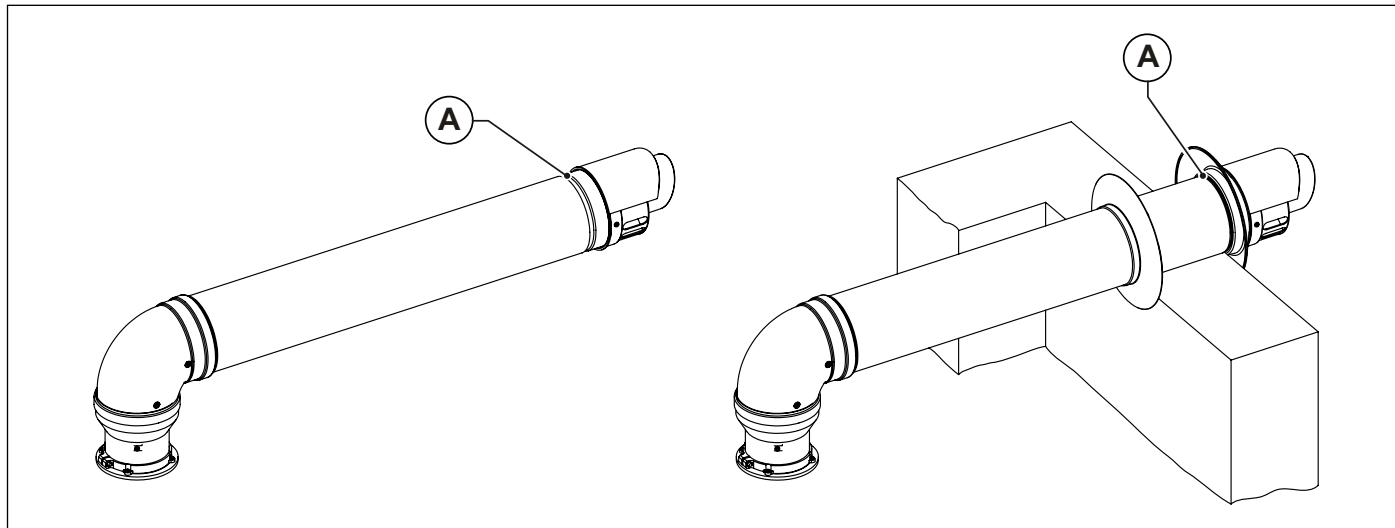

Fig. 13 Wall-mounted terminal installation
The final parts of air intake and flue gas venting terminals, both split and coaxial, feature a groove (A) to fix the external collar (see Fig. 13 Wall-mounted terminal installation).